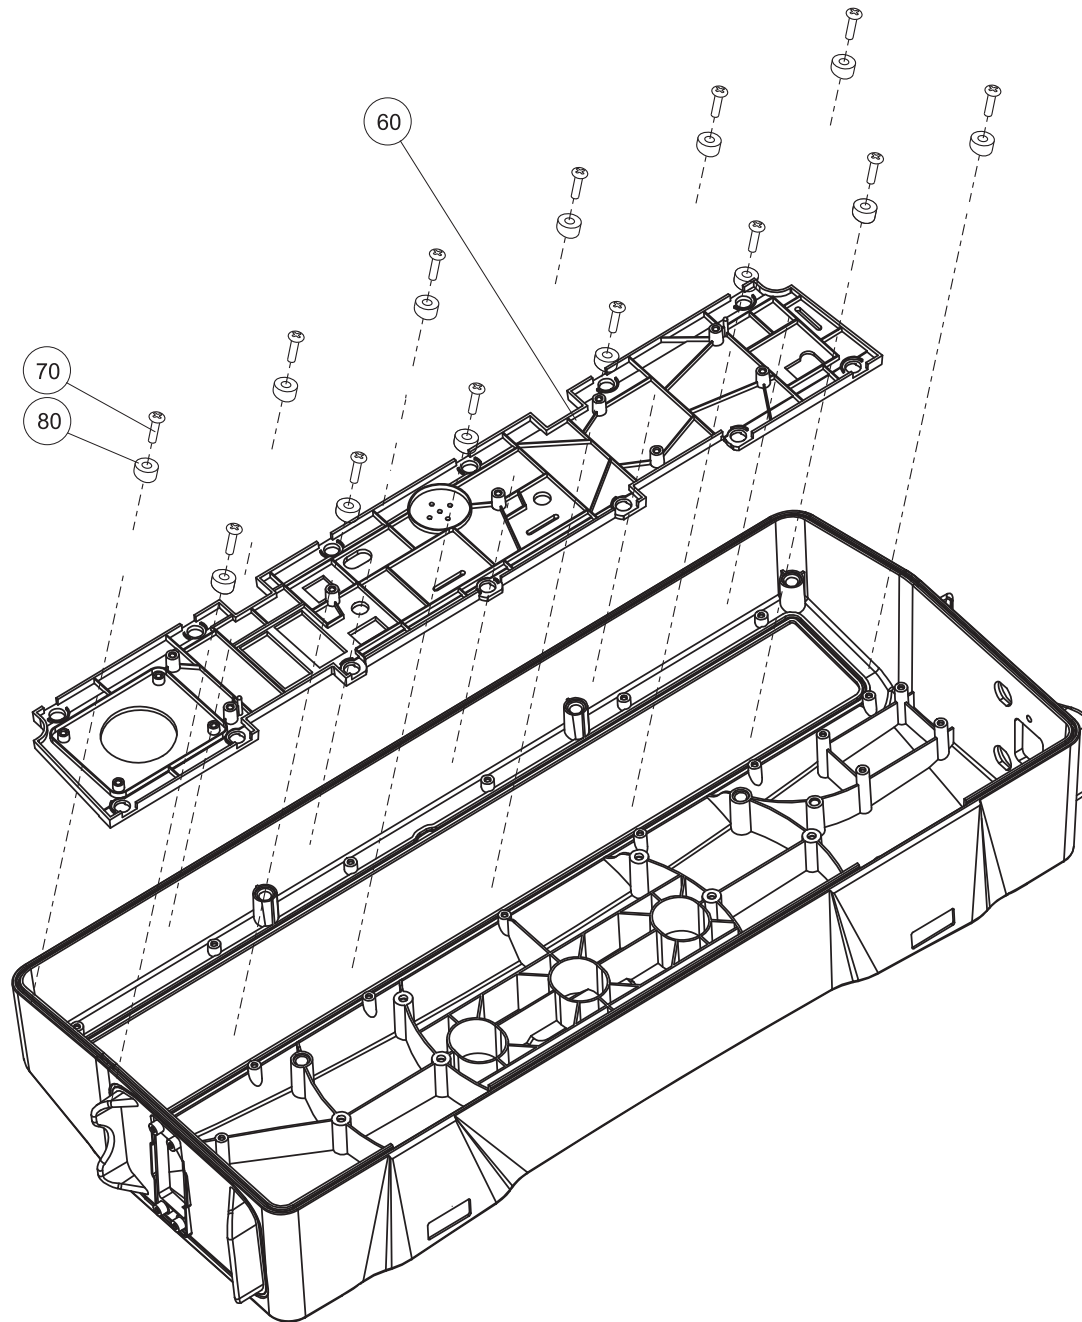

Figure 18 - Replacing the Front Panel
- 22.6 Remove the screws and fixing caps (Fig 18, Items 70 and 80) and then remove the Front Panel (Fig 18, Item 80).
- 23.1 Install the Front Panel (Fig 18, Item 60) and secure with screws and fixing caps (Fig 18, Items 70 and 80).